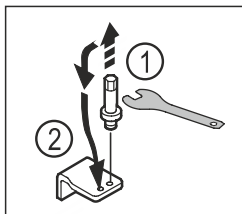

Fig. 17
- ▶ Unscrew the bolt of the lower swap bearing block with an Allen key AF5. Fig. 17 (1)
- ▶ Insert the bolt on the opposite side. Fig. 17 (2)